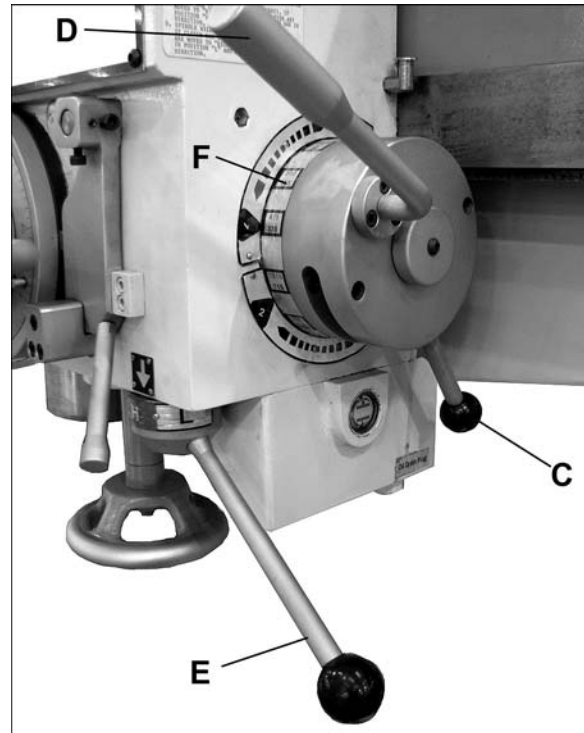

Figure 12: Gear change levers
Spindle speeds are established using gear change levers on lower right-hand side of drill head. The shorter of the two levers (C, Figure 12) operates a two-speed mechanism which puts the gearbox in either high or low gear. The longer gear change lever (D) operates a three speed gearbox mechanism. A detent in the middle of the three-speed lever travel indicates when lever is in intermediate gear position.
This gearbox set-up allows a total of six spindle speeds which may be selected. Adding the two speeds possible with the HI/LOW change lever (E, Figure 12) increases the number of available speeds to twelve.
3. Move short lever (C, Figure 12) to position “1” or “2”.
4. Move long lever (D) to appropriate position. (If lever C is in position “1”, refer to arrow marker “1” for the reading. If lever C is in position “2” refer to arrow marker “2” for correct reading.)
5. Move HI/LOW change lever (E) to desired position. When this lever is in HI setting, use the red numbers on the spindle speed readout (F). When this gear is in LOW setting, use the black numbers on the spindle speed readout.